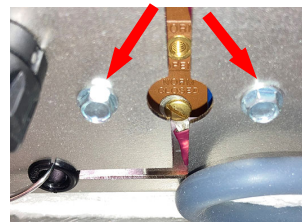

Figure 12
9. Remove two screws securing the high-limit mounting-bracket (see Figure 12).